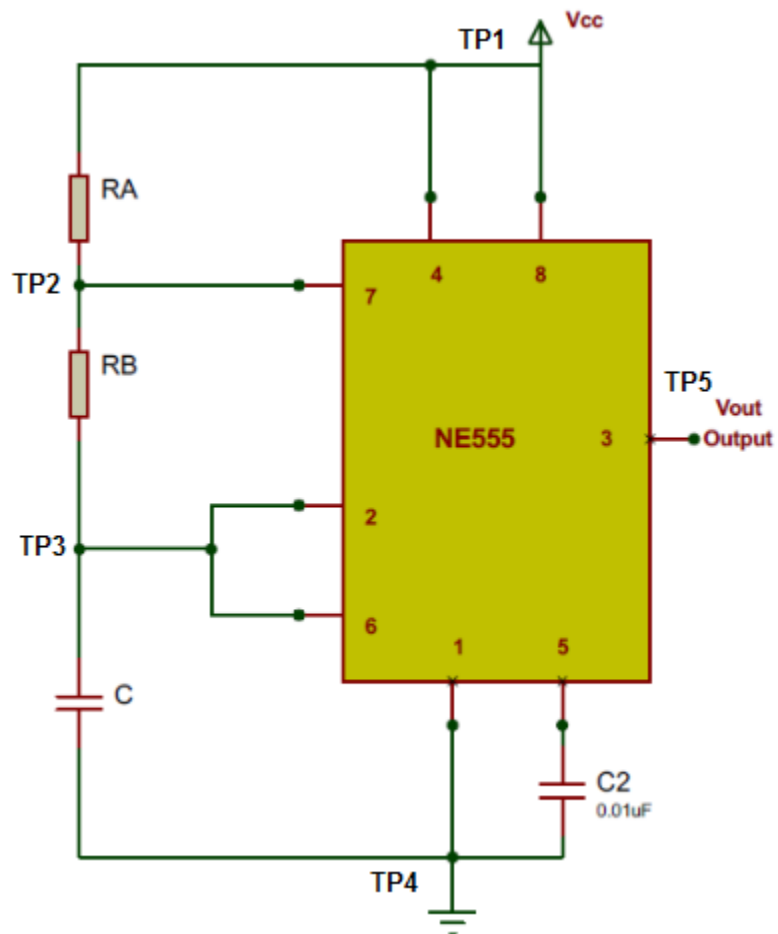

Figure: 8.4
1. Assemble the circuit as shown in the Figure 8.4